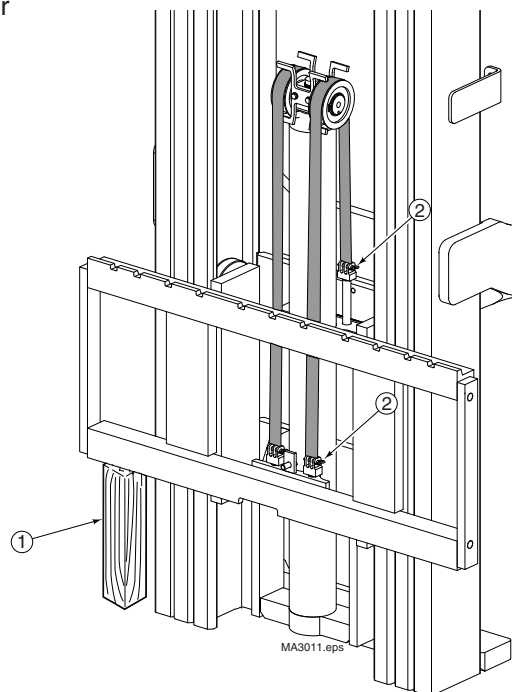

Figure 64. Free Lift Chains.
1. Raise the carriage 12 in. (30 cm). Place a 12 in. (30 cm) block under the carriage, then lower the carriage onto the block. The free lift chains should be slack. See Figure 64.